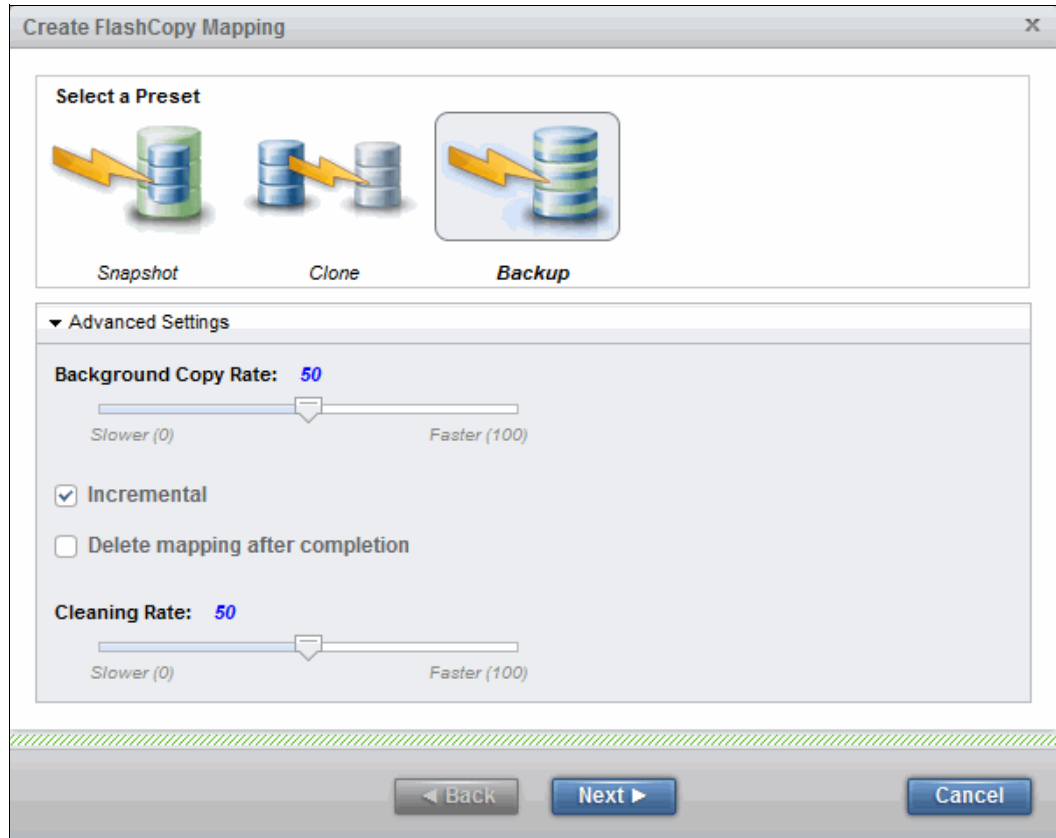

Figure 10-18 Default settings for the backup preset
c. Figure 10-18 shows the following Advanced Settings for the *Backup* preset: